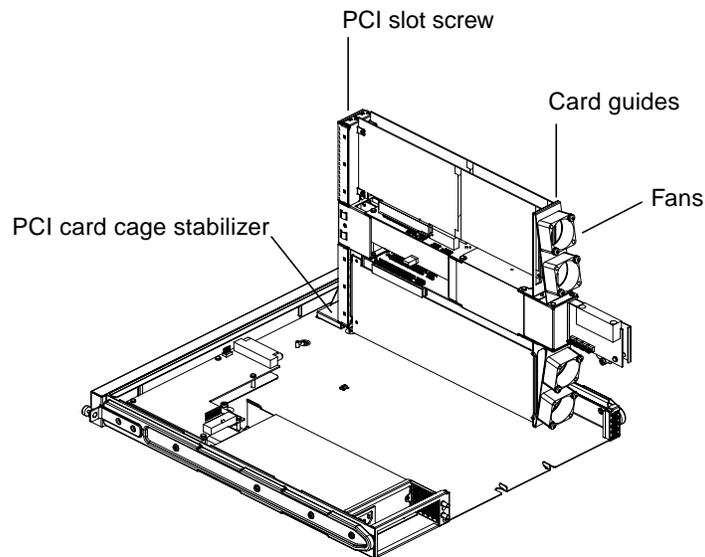

FIGURE 4-4 PCI Cards Installed in the PCI Card Cage Slots
1. Rotate the PCI card cage so that you can place the PCI card slot side under the lip of the PCI card cage stabilizer, as shown in FIGURE 4-4.